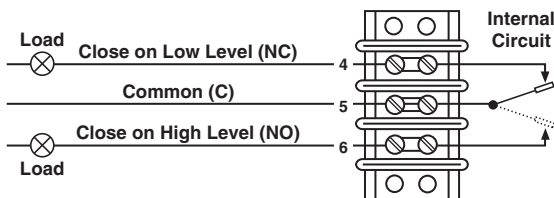

Figure 10
1. Rising level closes contacts 5 & 6, see Figure 10.